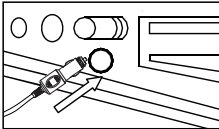

Figure 3
- The power source must be a 12 V DC power source (see Figure 3).